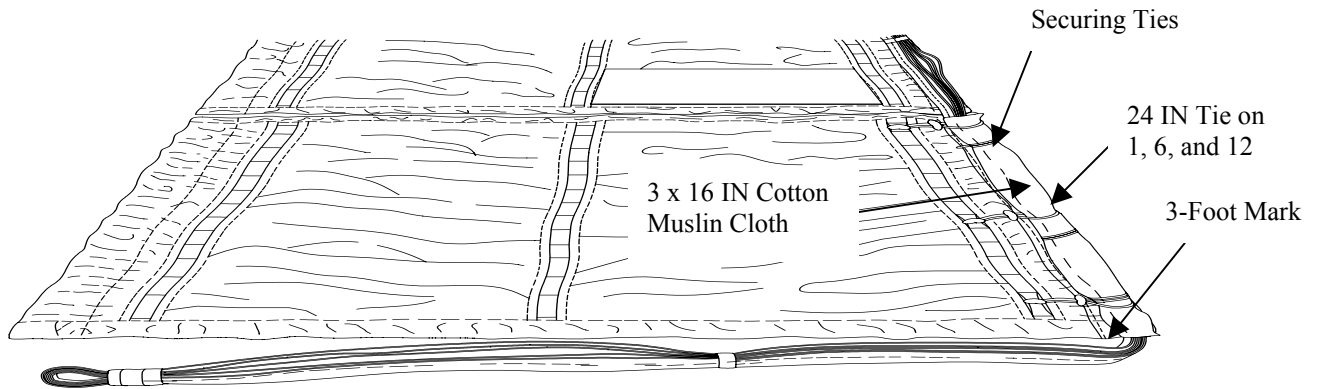

Figure 5. Extraction Line Secured to Bottom Panel.
- c. Secure the extraction line on the right side of bottom panel using one turn type I, 1/4-inch cotton webbing (previously installed), on stow loops 1, 6, and 12 on the right side (figure 5).